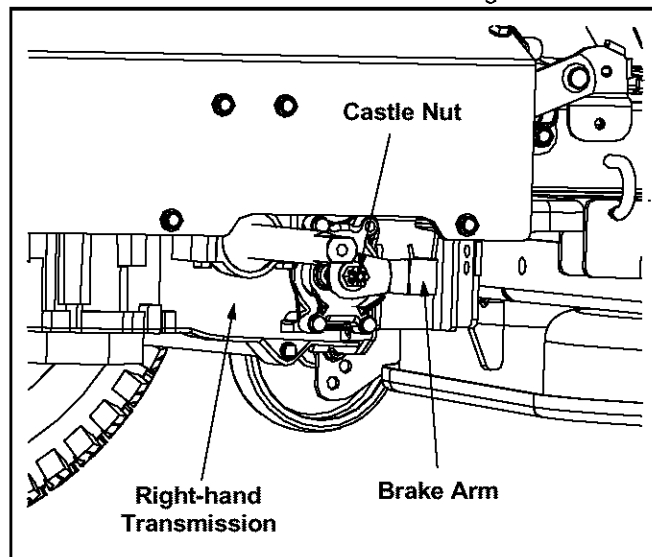

Figure 17
- Locate the cotter pin which secures a castle nut to the transmission's brake arm. See Figure 17.